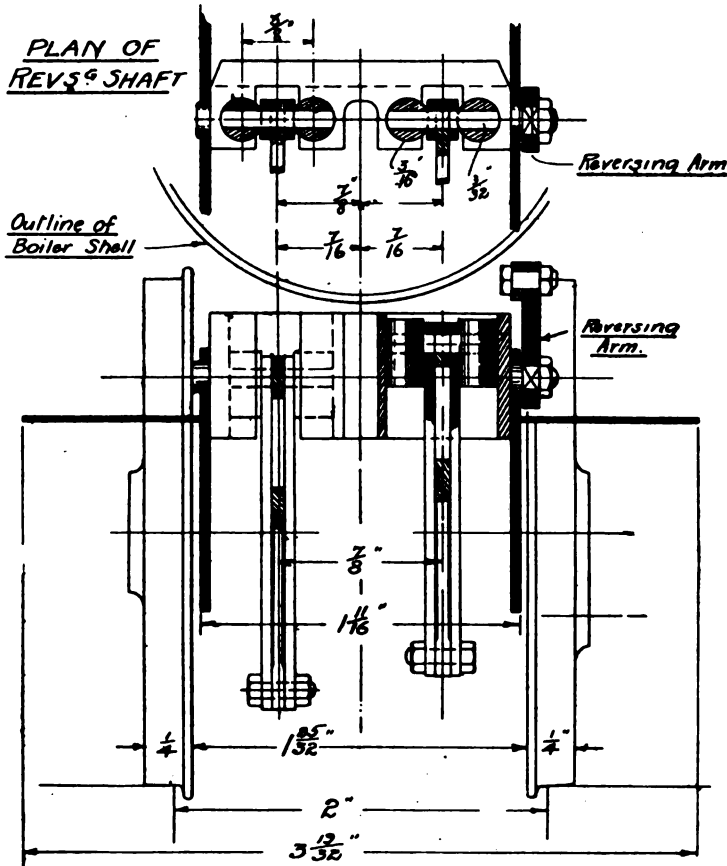
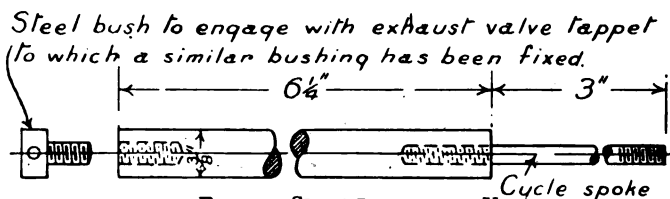

FIG. 10.—DETAILS OF NEW VALVE GEAR, AS APPLIED TO A 7-16THS IN. SCALE MODEL L.N.W.R. LOCOMOTIVE, "EXPERIMENT" CLASS.
FIG. 5.—SLIDE-ROD.
SUPPLEMENTING the notes on the application and principles of the new gear illustrated in the last article, I submit in Fig. 10 views of a reversing shaft, which, I think, will prove most serviceable under the average conditions of working. This drawing is, like Fig. 5, arranged to suit the "Experiment" type of L.N.W.Rly. model. The slide blocks are 3-16ths in. diameter and are placed $\frac{1}{2}$ in. apart. This reduces the total lateral space occupied by the slides, and altogether makes a neater and more symmetrical job of the gear. As the reversing shaft comes very close to the boiler, the slide block pin is not placed centrally, but in the "Experiment" and the ten-wheeled tank engine already referred to, the blocks may be turned from $\frac{1}{4}$ -in. steel and parted in $\frac{1}{2}$ in.
lengths, the hole being drilled 5-32nds in. from the top edge. To drill these slide blocks a vee-grooved pad should be used to hold them in place on the tailstock of the lathe during the operation. If a drilling machine is employed a vee block placed on the table will, of course, act in a similar way and tend to ensure accurate results. The slides of the reversing shaft may also be made to extend farther in downward direction than above the centre line of the trunnions, so that the maximum amount of bearing surface may be obtained without the danger of either slides fouling the bottom of the boiler barrel. The drawing (Fig. 10) shows the slide
It will be noted that there is a projection, which may be likened to a continuous bar on the back of reversing shaft at the top. This is necessary to connect the slides together clear of the vibrating links and slides. To keep this clear of the boiler when the shaft is tilted into the forward direction, the top of the shaft should be chamfered off as indicated in the cross section of the shaft in Fig. 5 of last week's article. In addition, a chamfering
off is necessary on the lower edge, so that the vibrating link will not touch the reversing shaft when the bottom end is on point D and the reversing lever is in back-gear (that is, when the shaft is at the opposite angle to which it is shown in Fig. 5).
(3) The port openings are equalised to a greater extent if the reversing shaft is placed a little nearer (say, 1-32nd in. in a 2-in. gauge model) to the crank-axle than the theoretical distance. The normal horizontal distance between the reversing shaft, trunnions, and the crank-axle should equal the horizontal distance between the big end of the connecting-rod and the centre of the lug which projects downward and connects with the vibrating link. In the case of the "Precursor" and "Experiment" models (see Figs. 5 and 6) the horizontal